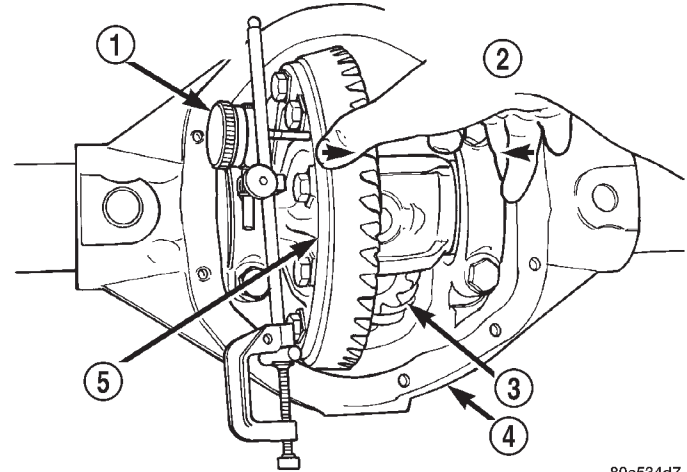

Fig. 101 Hold Differential Case and Zero Dial Indicator
- (21) Push and hold differential case toward pinion gear (Fig. 101).
- (22) Zero dial indicator face to pointer (Fig. 101).